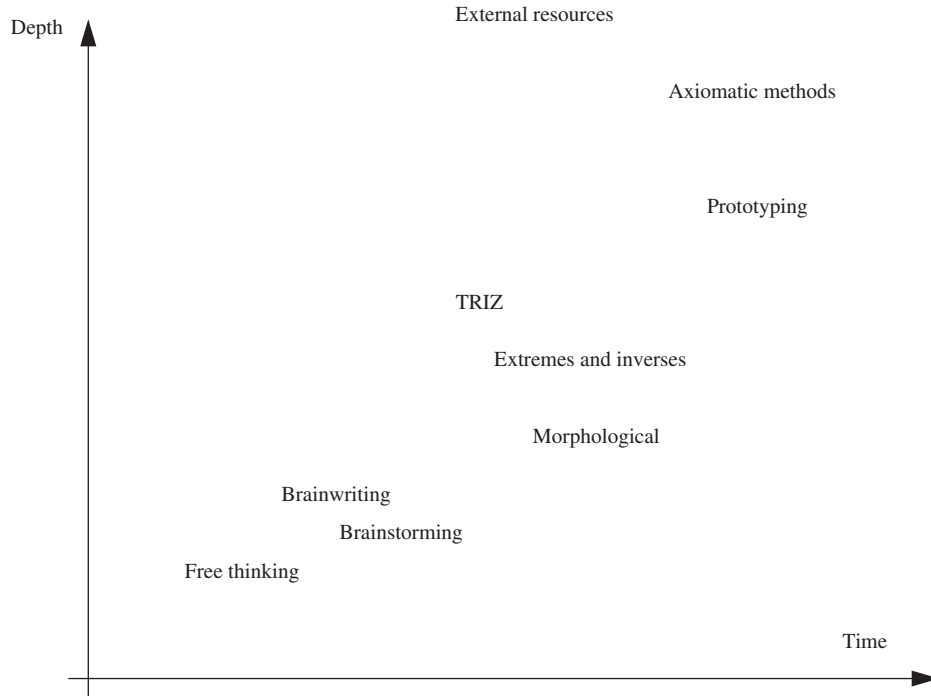

FIGURE 3.11
Concept generation methods are plentiful and each one provides some unique opportunities and values. Some of these are described in the following list. Major variations between these methods are (1) the number of people involved, (2) the level of creativity required, (3) the amount of change expected, and (4) how the creative process is structured. Figure 3.11 shows the methods in terms of the time required. Approaches such as brainstorming do not require much time and forethought. A method such as prototyping requires more time and effort. Each of these methods will have advantages based on problems, individuals, and needs.